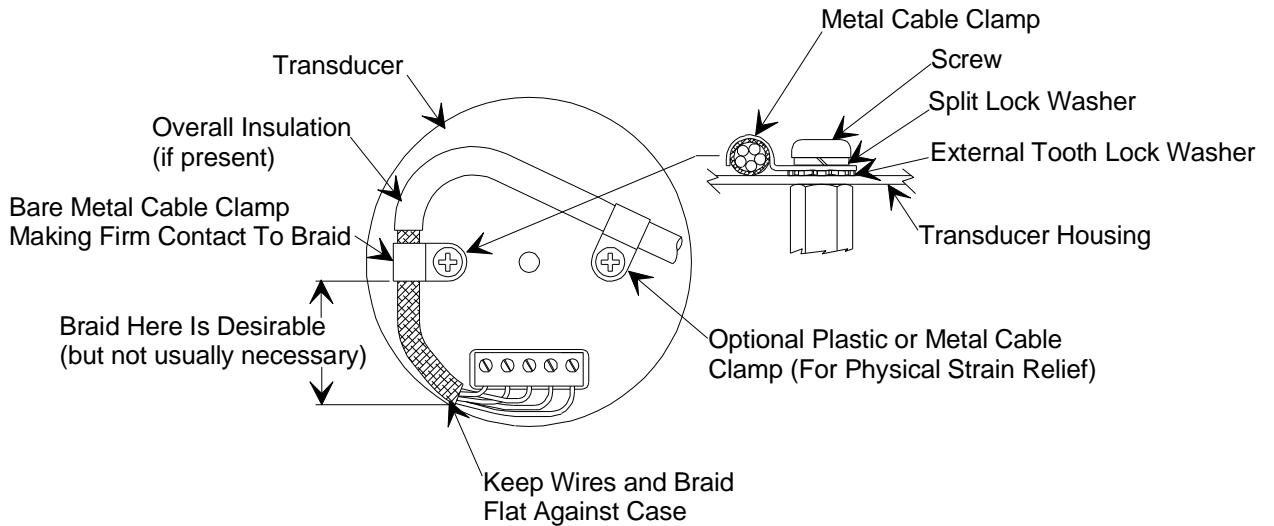

Figure 2: Preferred Method to Connect an Overall Metal Braided Shielded Cable
4. For shielded cables with flying leads at one or both ends, it is important at each such end to ground the shield *before* the wires exit. Make this ground with absolute minimum length. Refer to Figures 2 and 3 on page 23. (A $\frac{1}{4}$ inch piece of #22 wire may be undesirably long since it has approximately 5 nH of inductance, equivalent to 31 ohms at 1000 Mhz). After picking up the braid's ground, keep wires and braid flat against the case. With very few exceptions, grounded metal covers are not required over terminal strips. If one is required, it will be stated in the Declaration of Conformity or in the instruction manual.